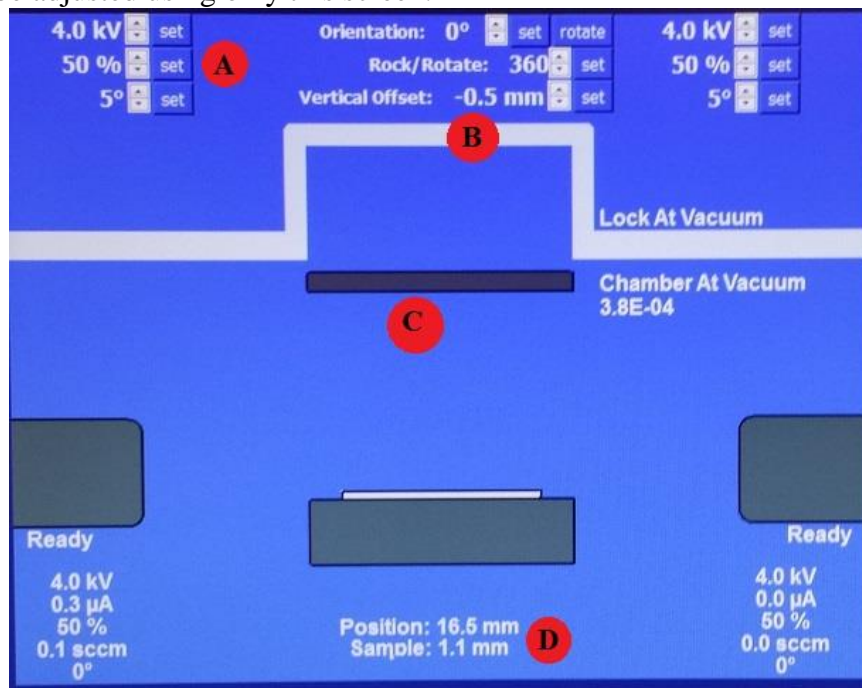

Figure 13
13. During the milling process, the Instrument Graphic (Figure 13) can be used to adjust any of the voltage, focus, beam angle, rotation/rock milling parameters. Use the up and down arrows to change the value and click “**Set**” to enable the change. The “**Vertical Offset**” for a sample can be adjusted using only this screen.